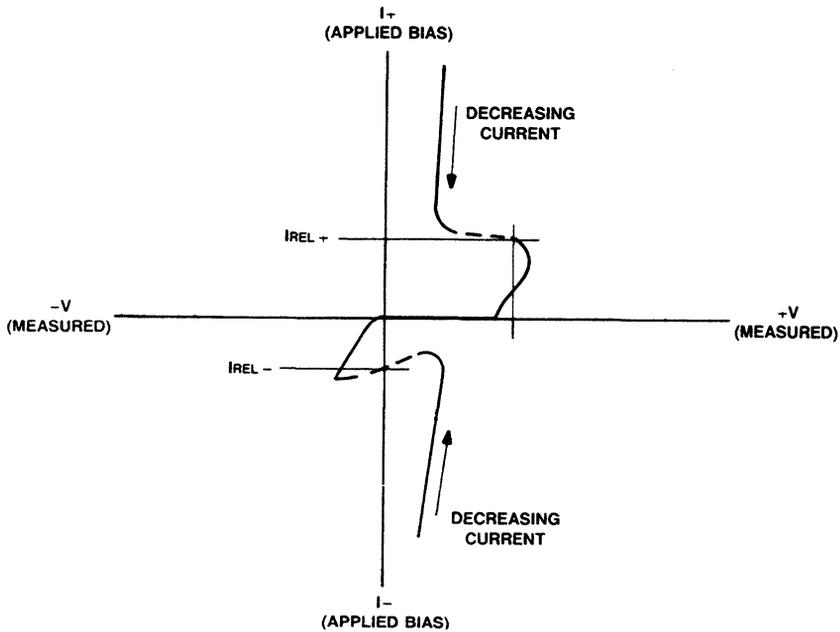

Figure 2. Release Current Characteristics
- Force the device into a low impedance on-state condition. Reduce the current (as specified in the following sentences) and measure the voltage on the pin to which the bias is applied (Figure 2).